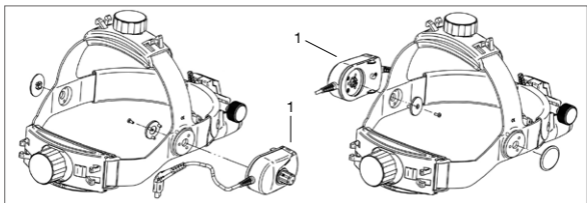
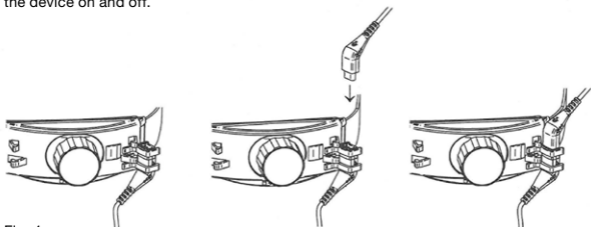

Abb. 3 Fitting the headband rheostat
Fig. 4
You can fit the headband rheostat (1) either on the left or the right side of the headband (see Fig. 3). The headband rheostat (1) can then be used for stepless adjustment of the brightness.
To set up the ML4 LED with mPack or EN50, connect the short cord from the brightness control with the connecting cord mPack UNPLUGGED/Cinch and fix this to the back part of the headband (Fig. 4). Connect the instrument to the Cinch-socket of the mPack or EN 50. The rheostat (1) (Fig. 3) is used to adjust the brightness and to turn the device on and off.